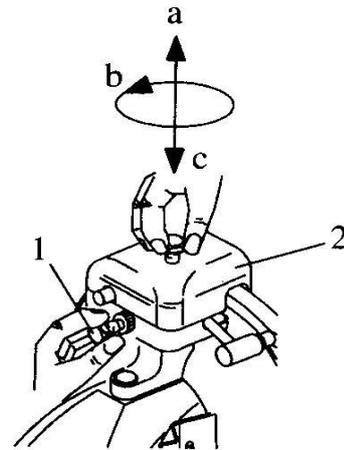

Figure 16 - Blade sharpening - initial operation
2. remove the blade guard (Fig. 16)